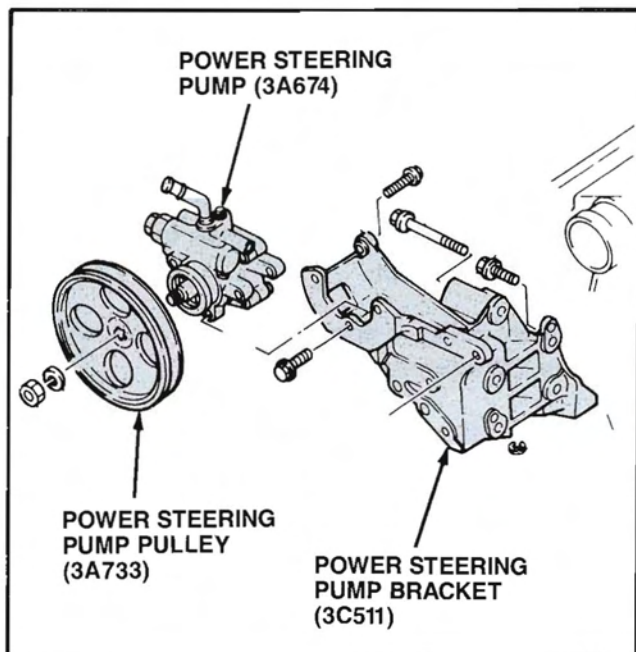

Figure 150. Power Steering Pump
1. Install the power steering pump bracket to the cylinder block and tighten the five retaining bolts to 36-55 N·m (27-41 lb-ft) (Fig. 150).